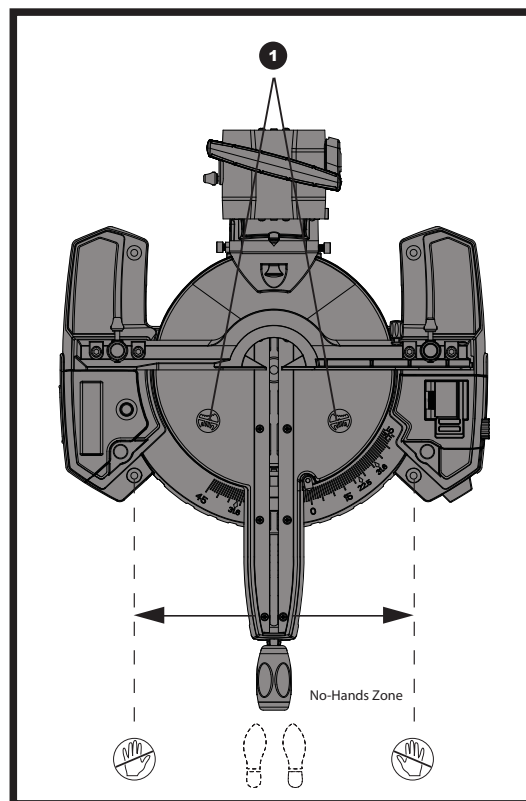

Fig 27
- Place hands at least 190.5 mm away from the blade – out of the “no-hands zone” (1). (See Fig 27)